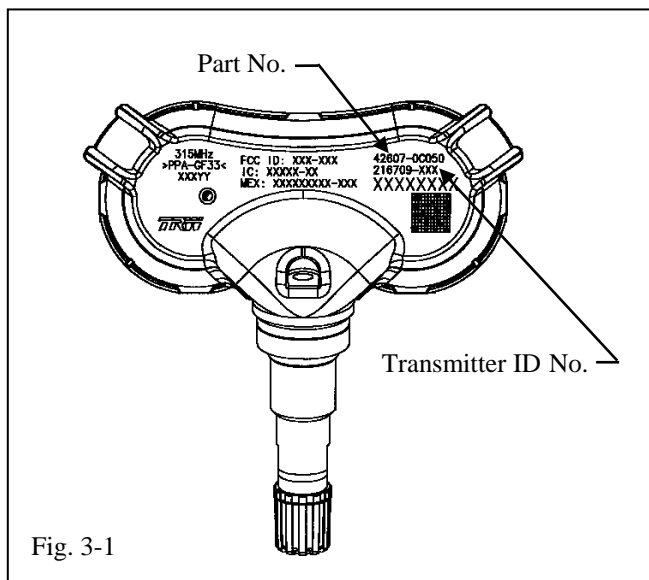

Fig. 3-1
- (e) Record TPMS Transmitter ID No. and verify that the number is copied accurately (for "Styled" steel wheel)(Fig. 3-1)